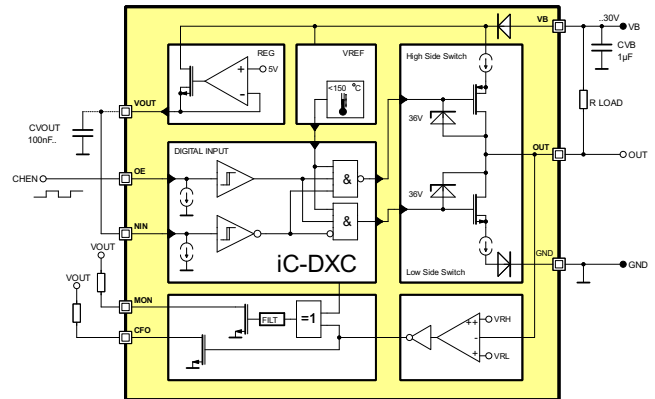
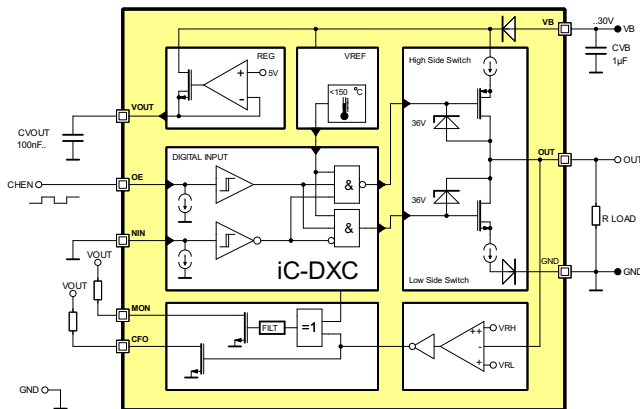
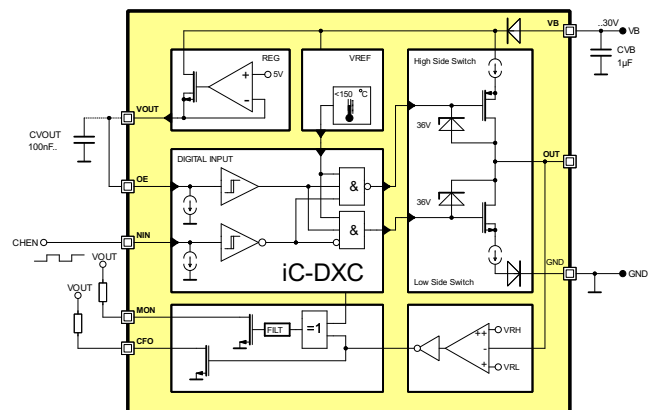

Figure 5: Configuration as Low-Side (NPN-Switch)
Figure 4: Configuration as High-Side (PNP-Switch)
Figure 6: Configuration as Pushpull
The iC-DXC can be operated in high-side (PNP), low-side (NPN) and push-pull (PP) switch mode. Figure 4 shows the high-side operation where NIN pin must be kept low and the OE pin controls the switch. Figure 5 shows the low-side operation where NIN pin must be kept high and the OE pin controls the switch. Figure 6 shows the push-pull operation where OE pin must be kept high and the NIN pin controls the switch. If the OUT signal differs from what declared in tables 4, 5 and 6 (due to external forcing) for more than 14  $\mu$ s (cf. Electrical Characteristics No. 510), this event will be signalled by a low level at MON output. In case of a short circuit at OUT and resulting temperature shut-down, logic level of MON will be undefined.
Table 5: Output Function table Fig. 5. Low-side mode (NPN-Switch) with external pull-up.
Table 4: Output Function table Fig. 4. High-side mode (PNP-Switch) with external pull-down.
Table 6: Output Function table Fig. 6. Push-Pull mode